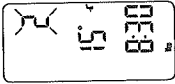

Fig. 11
- Repeat steps i, ii and iii above for the remaining events (Fig. 11).